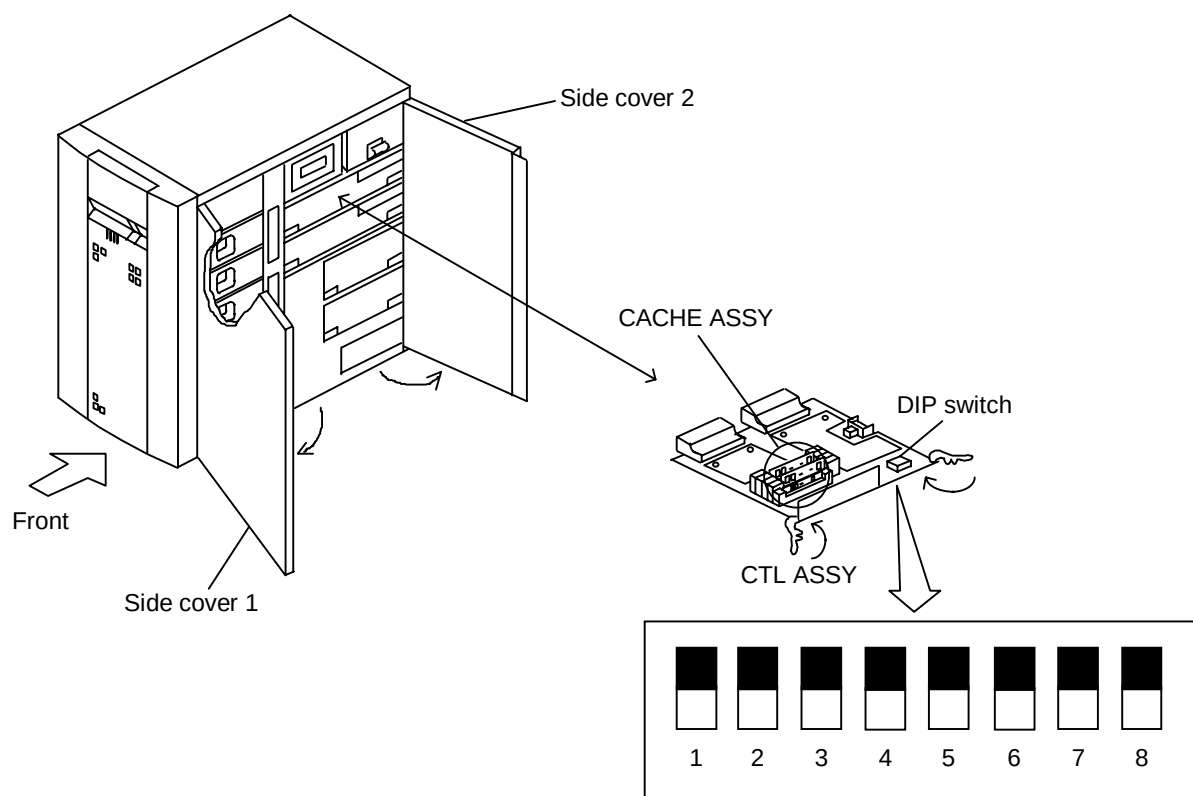

Figure 2.5.1 Installing the CTL ASSY
- (3) Open the side covers.
- (4) Install a CACHE ASSY in the additional CTL ASSY. (Mount a CACHE ASSY of the same capacity in the same corresponding slot of the optional CTL ASSY as those of the already installed CTL ASSY respectively as shown on MK-OPTION0150.)
- (5) Insert the CTL ASSY in a predetermined position with the right and left levers opened. Push the right and left levers in the arrow-marked erection (→) at the same time. (See Figure 2.5.1.)